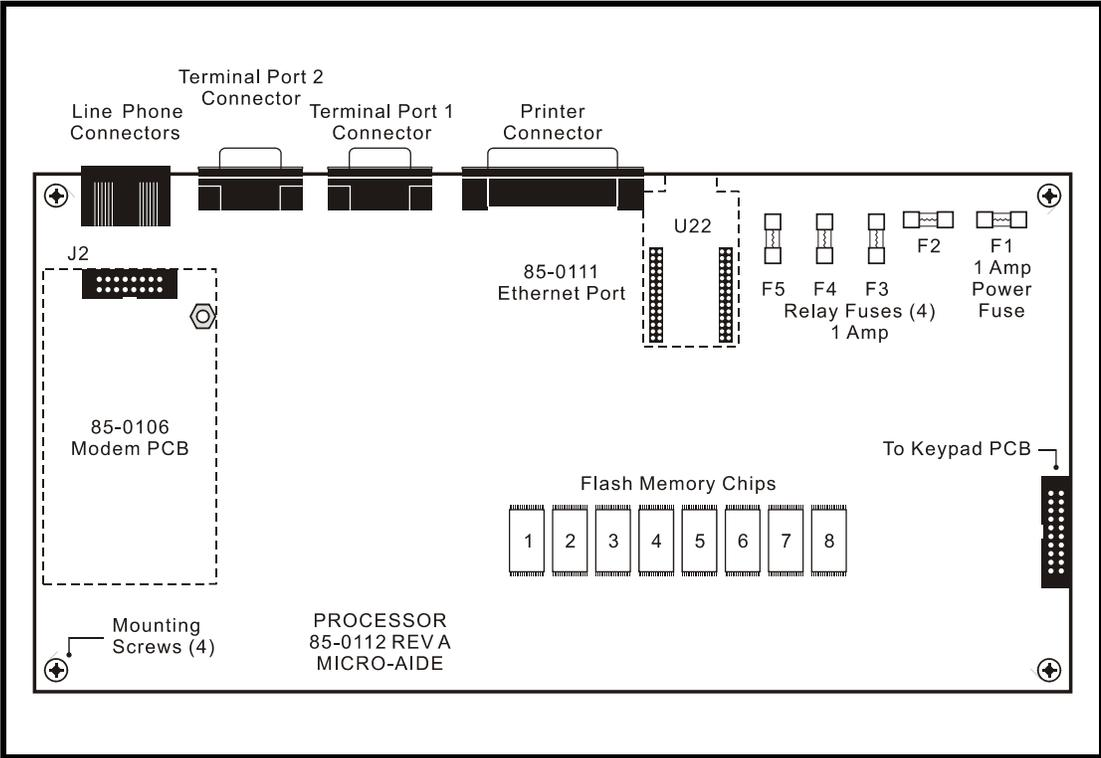
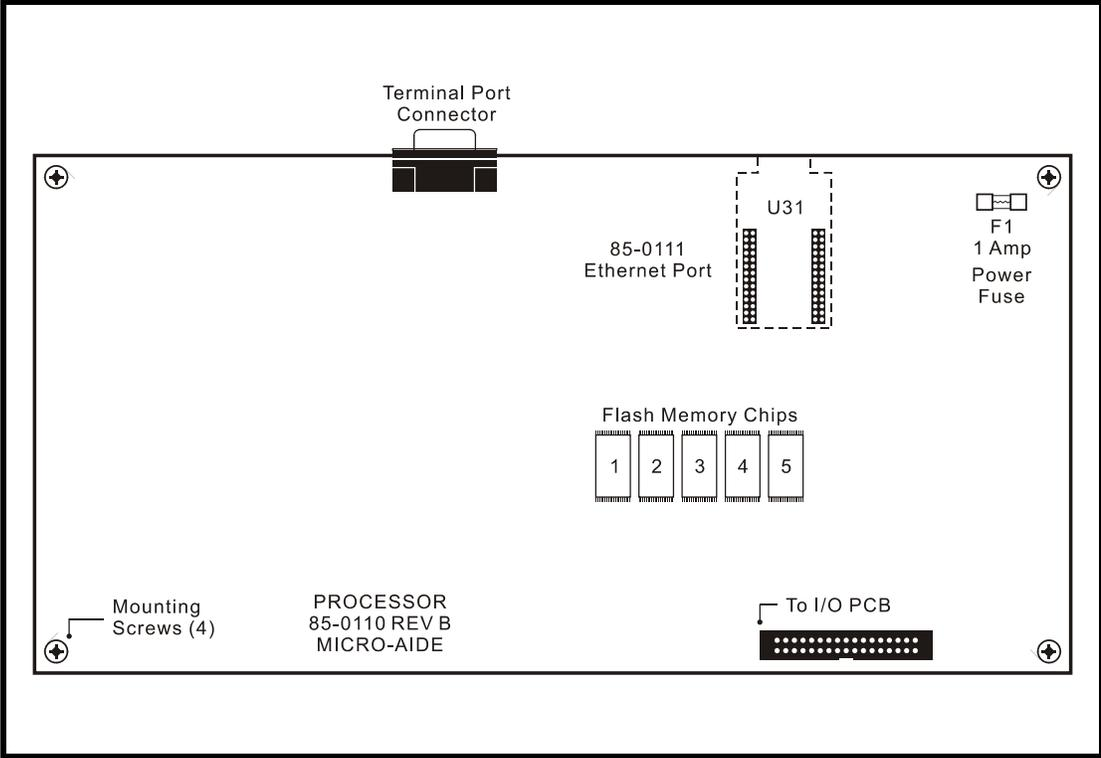

Figure 11 - CWR-264P Processor PCB
Figure 12 - CWR-264S Processor PCB
2. Locate the existing modem near the upper left-hand corner of the Processor PCB. The modem’s outline and mating connector are illustrated in Figure 11 on page 100.
2. Locate the existing Ethernet module along the upper edge of the Processor PCB. The module's outline and mating socket are illustrated in Figure 11 and Figure 12 on page 100. Carefully remove the existing module by prying the end of the module slightly upward.